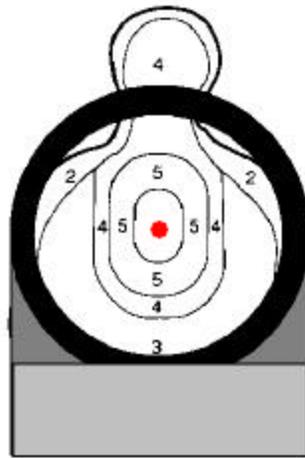
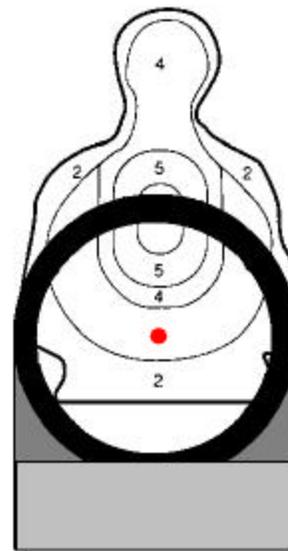

Figure 4
Figure 5
- f. Sight picture with ACOG sight. The ACOG reflex sight is designed for close combat and quick target acquisition while providing enhanced aiming. It has a tritium illuminated dot for night and low light use. Using the ACOG Reflex sight, place the amber aiming point on the desired area of impact. When using 12 Ga. sting ball ammunition (7-yard line) the sight pictured will be center mass of the target. Rounds impacting anywhere inside the target area will count for score (see figure 4). When using the rubber fin stabilized rounds, the desired impact area is the lower to mid torso (see figure 5). Due to the fact that the rubber fin stabilized is very accurate, the shooter may target outer extremities (i.e. shoulders, arms and legs). Rounds impacting inside the head/neck area or inside the 4 and 5 ring will not count for score.